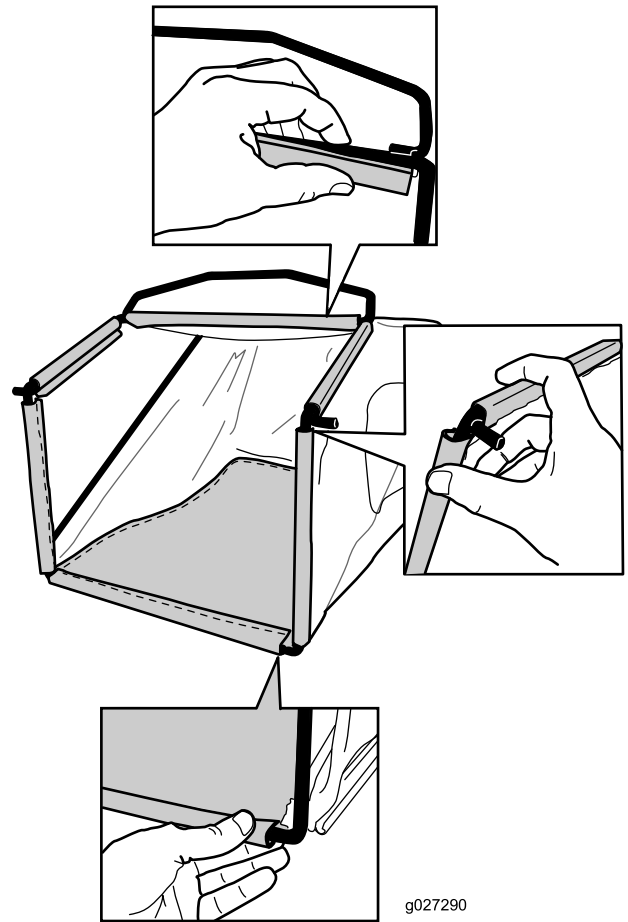

Figure 10
3. Hook the top and side channels of the bag onto the top and sides of the frame, respectively (Figure 10).
2. Hook the bottom channel of the bag onto the bottom of the frame (Figure 10).